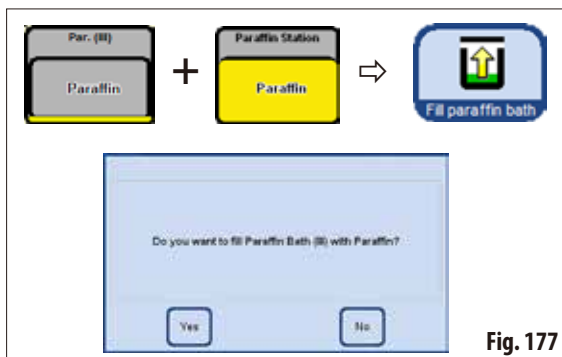

Fig. 177
- Confirm the prompt (Fig. 177) with **YES**.